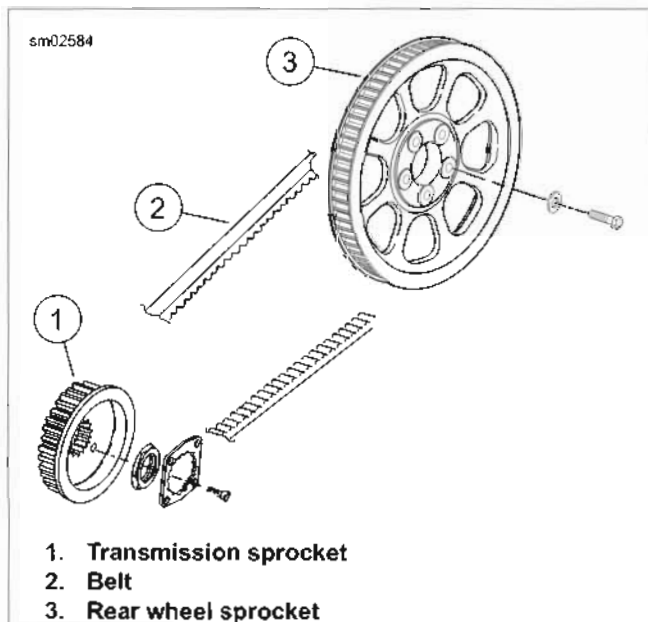

Figure 5-41. Belt and Transmission Sprocket
5. See Figure 5-41. Slip drive belt (2) from transmission sprocket (1).
1. See Figure 5-41. Install belt (2) over transmission sprocket (1).